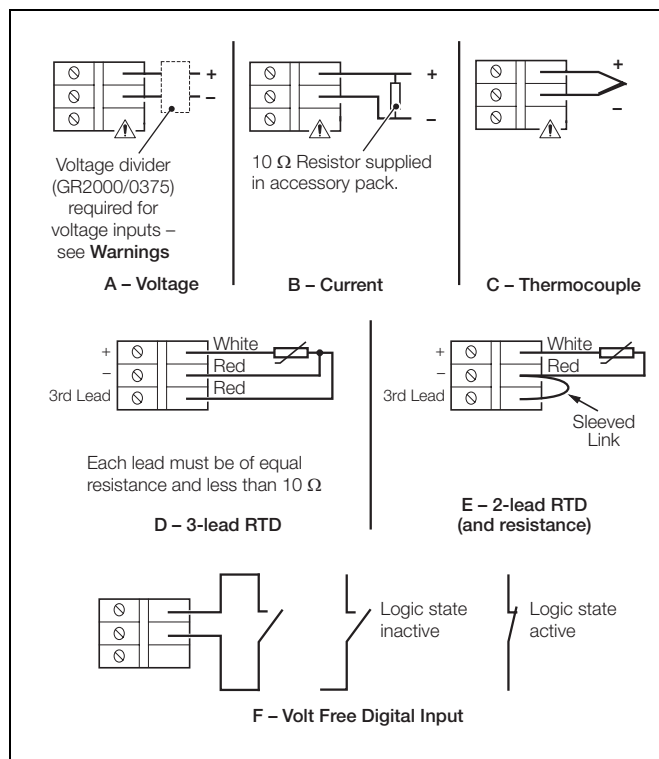

Fig. 5.6 Analog Input Connections
5.4.1 Current and Voltage – Fig. 5.6
5.4.2 Thermocouple – Fig. 5.6
5.4.3 Resistance Thermometer (RTD) – Fig. 5.6